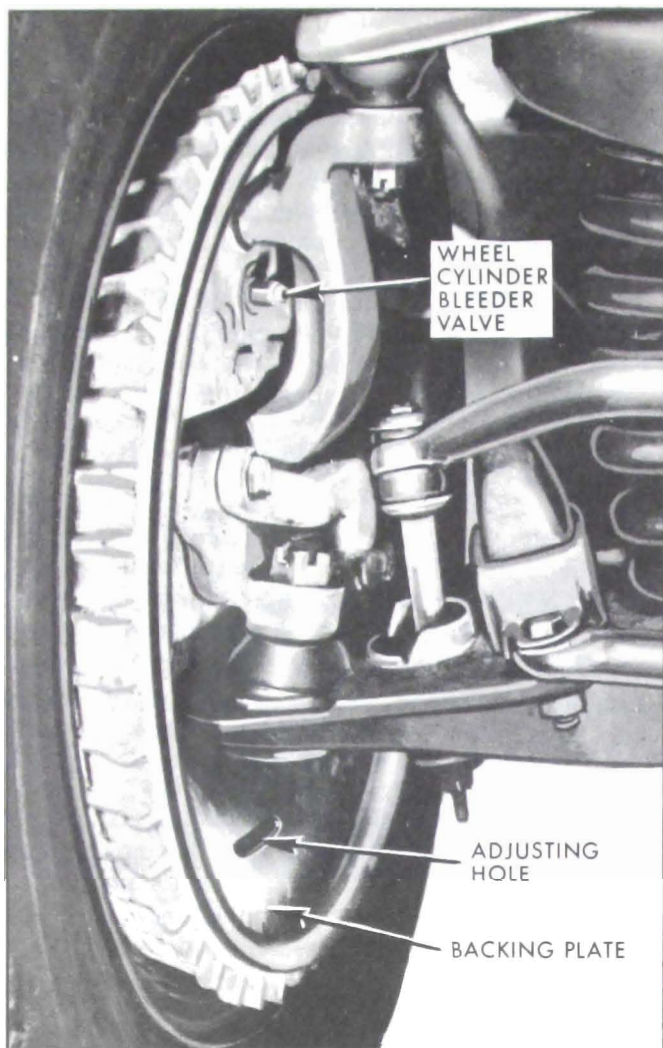

Figure 9-7—Right Wheel and Brake Assembly
of bleeder tube in a clean glass jar. Unscrew bleeder valve $3/4$ of a turn. See Figure 9-7.
3. Slip a brake bleeder tube over ball of wheel cylinder bleeder valve. Place lower end of bleeder tube in a clean glass jar. Unscrew bleeder valve $3/4$ of a turn. See Figure 9-7.